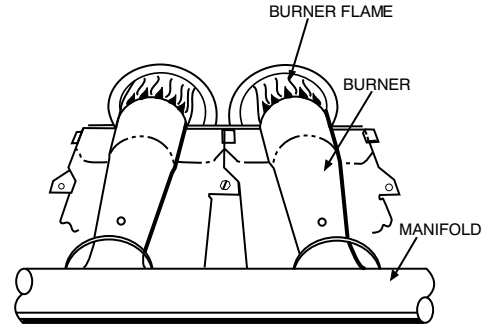

Fig. 10 – Monoport Burner
1. Inspection of all flue product passages-including the burners, heat exchanger, and flue collector box, Make sure the burner flames are blue in color and in proper adjustment. Refer to Fig. 10 for burner flame.